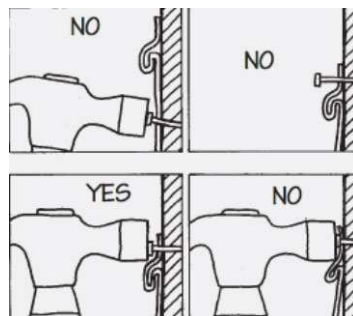

Figure 11-8. Siding Nail Head Gap.
1. Vinyl siding expands and contracts due to temperature changes. Never drive nails tight. The siding panels must hang on the nails and be permitted to move from side to side. Leave a $\frac{1}{8}$ " gap (the thickness of a nickel) between the nail head and the siding slot (see Figure 11-8).